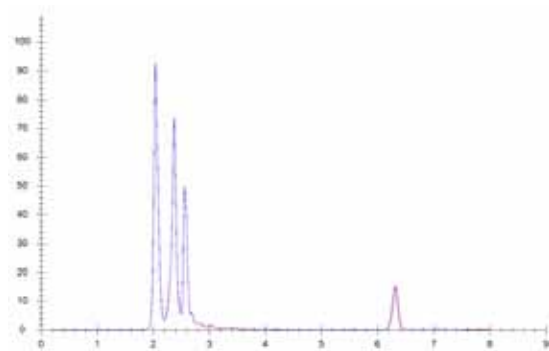

Figure 5. Chromatogram of blank milk sample
A) Figure 5 shows the chromatogram of blank milk sample.